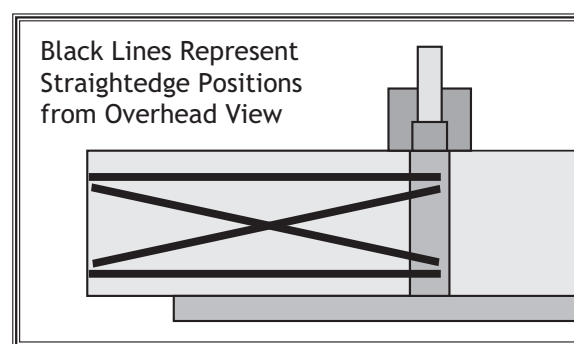

Figure 30. Straightedge positions for verifying outfeed table parallelism.
4. Place straightedge in positions shown in **Figure 30**. In each position, straightedge should touch cutterhead and sit flat on outfeed table.